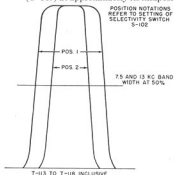

Figure 39. Combined i-f stages, over-all selectivity curves.
f. FIRST I-F INPUT CIRCUIT ALINEMENT. Alinement of this stage is accomplished with the output of the sweep generator introduced on pin 8 of tube V-104 and all other connections left as described in *c* above. Transformer T-113, like transformer T-118, is sharply peaked and not affected by the SELECTIVITY switch setting. This stage will transform the double-peaked curves of transformers T-114 through T-118 to a flat-topped curve as shown in figure 39. Use the following procedure for alinement:
- (1) Set CRYSTAL PHASING control (C-147) at approximately its midposition.